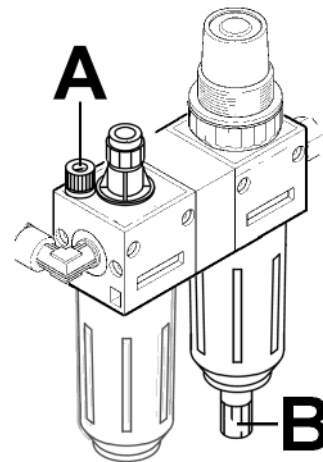

Fig.29
**H.** Discharge water from air filter every day!! (Do this by pressing the knob "B" upward. Water will automatically be discharged.) (see 'B' at Fig.29).